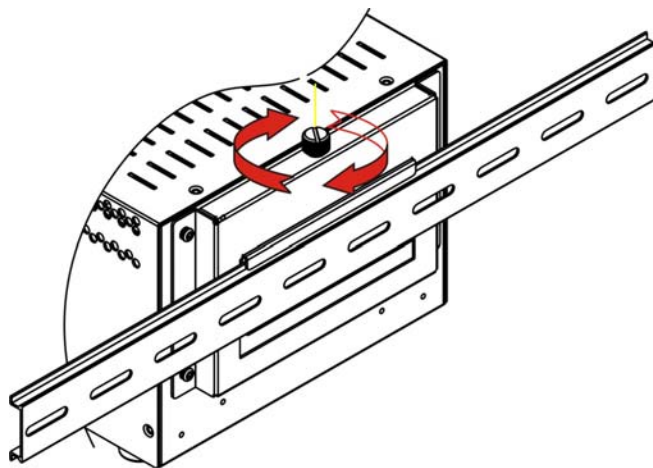

Figure 4-12: Secure the Assembly to the DIN Rail
- Step 6:** Secure the DIN rail to the mounting bracket by turning the top screw clockwise. This draws the lower clamp up and secures the embedded system to the DIN rail (Figure 4-12).